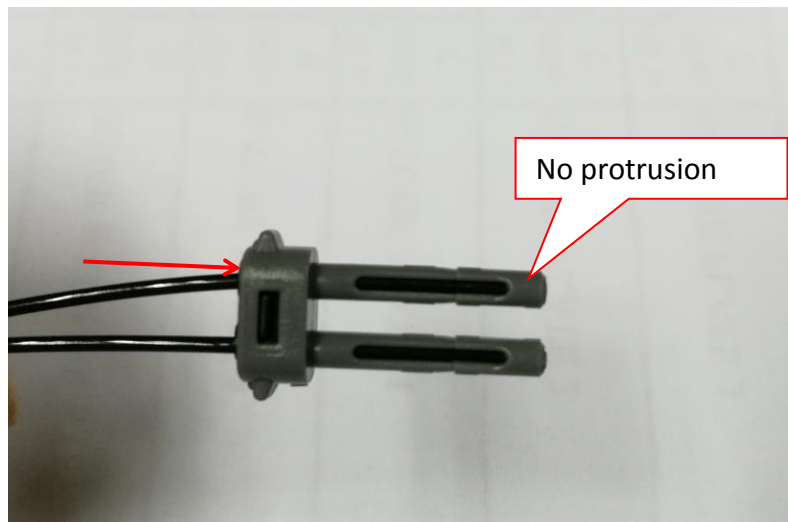

Figure 40 PIP Sensor Cable Adapter
10. Gently slot PIP Sensor End Cable into adapter as shown in Figure 40